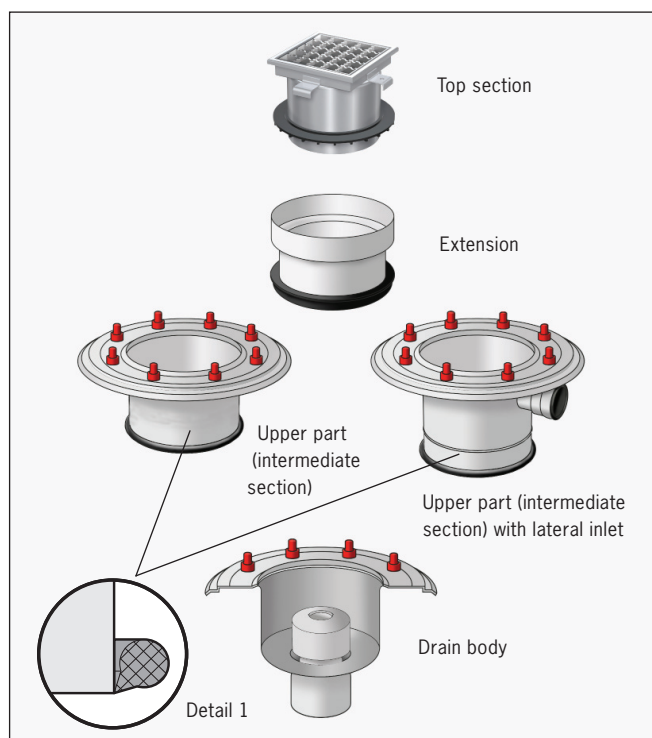
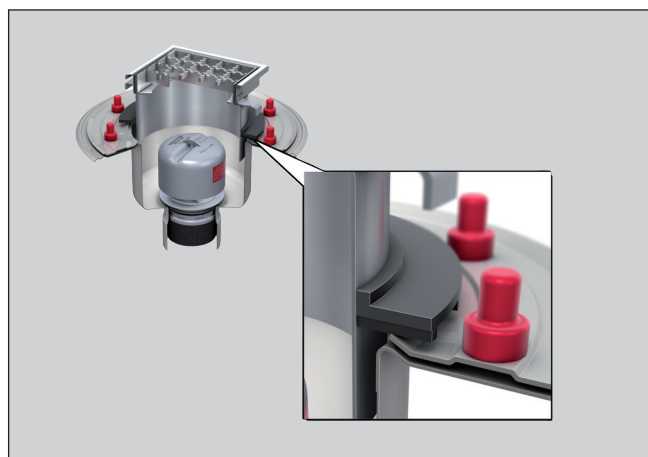

Fig. 7
Fig. 9
- During assembly of upper part, the correct seating of the sealing ring (lip pointing downwards) is important (refer to detail 1). The sealing ring (fig. 7) prevents the ingress of back-flowing wastewater into the existing floor structure. If seepage water shall be drained away from the lower sealing membrane, the sealing ring must not be installed (refer to selection aid fig. 9/10).
Retaining ring with seepage water bars (fig. 9)